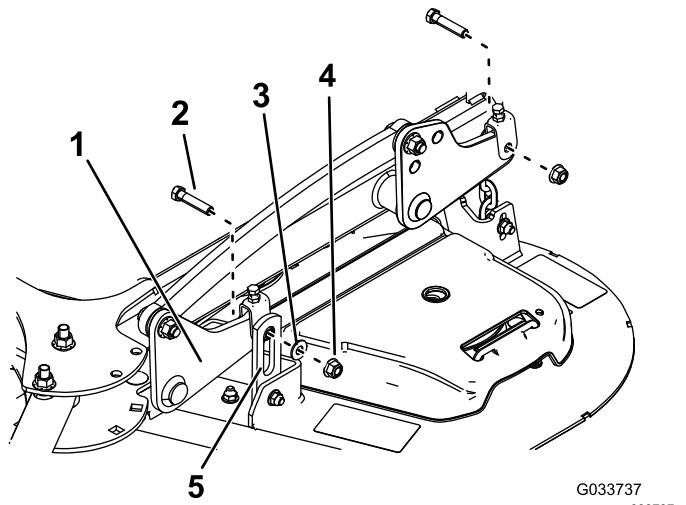
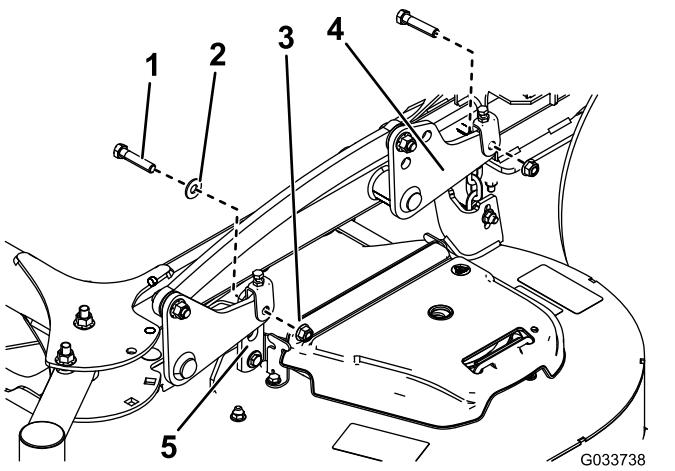

Figure 87
Figure 88
5. Remove the 2 bolts, 2 nuts, and washer connecting the mower-deck hangers to the lift plates for both sides of the mower deck (Figure 87 and Figure 88).
Note: Mount the front hanger brackets on the outside of the front lift arms for 52-inch decks (Figure 87). Mount the front hanger brackets on the inside of the front lift arms for 60-inch decks (Figure 88).